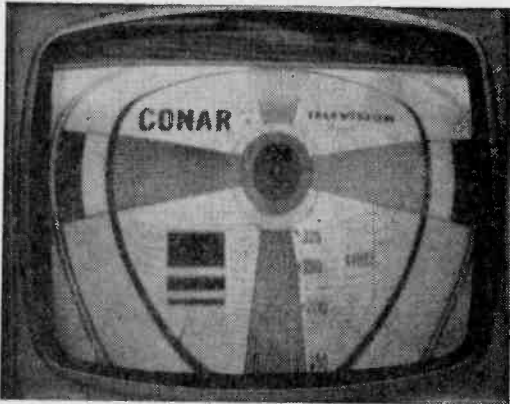

Fig. 24. Flat-topped circle can be made round again by adjusting both the vertical linearity and the vertical height controls together.
**Vertical Linearity Control.** Fig. 24 shows a picture in which the vertical linearity control is misadjusted. In this case the picture is cramped from top to center while the bottom half is elongated. To adjust the vertical linearity control, rotate the shaft until the picture dimensions from top to center and from bottom to center are the same. To do this it is usually necessary to adjust the vertical linearity and vertical size controls alternately until the picture is linear and fits the screen.